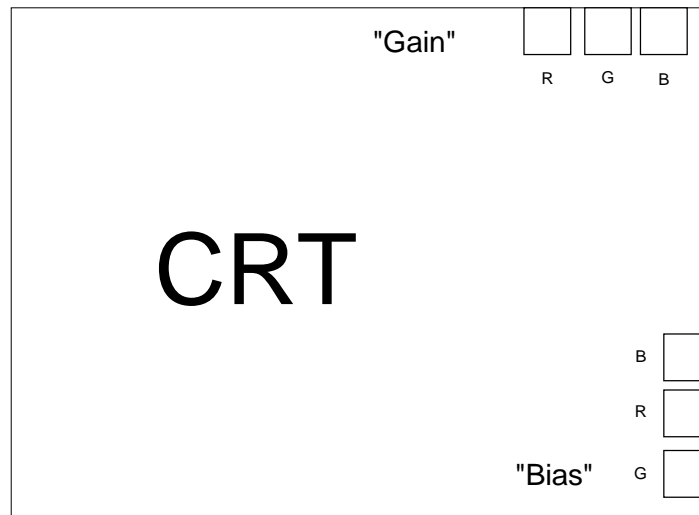

Fig. 5.3-4. CRT PCB, rear view
3. Set the Contrast pot. to min. and the Brightness pot. to max. and check that the intensity is > 3 Nit (typically 40 NIT). The intensity can be adjusted with the "Bias" pots (Fig. 5.3.4).
9. Check that the RGB amplitudes does not differ more than 13% (20 NIT). If necessary adjust with the three Gain pots (Fig. 5.3.4) and then also check from step 7.